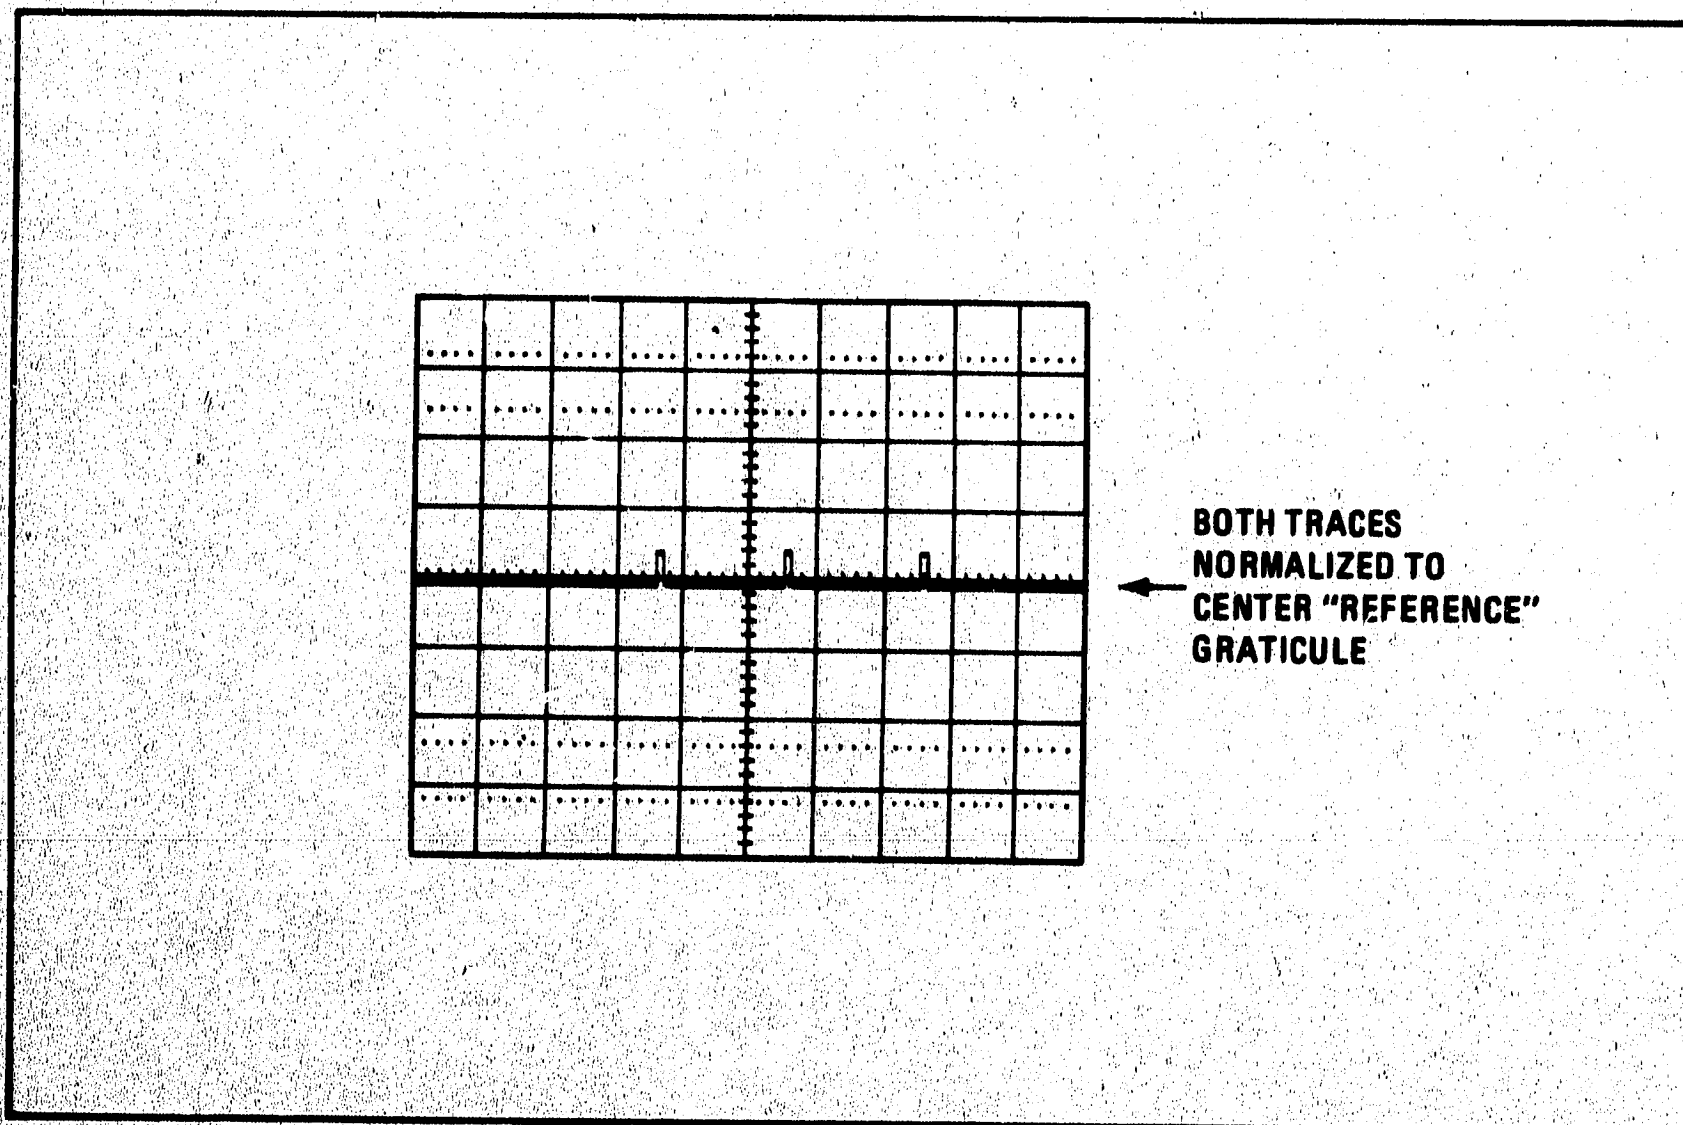

Figure 4-5. Normalized Full Band Display with Markers
29. On the 8750A, press INPUT-MEM and verify that the INPUT-MEM LED is lit. The display should show the Channel 2 transmission trace being replaced by a flat trace with markers on the center reference graticule. The display should then look like Figure 4-5. Both traces have been normalized to the center graticule reference position.